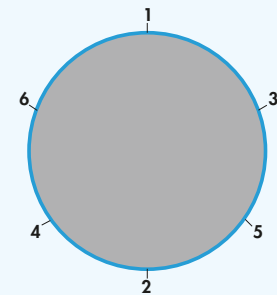

Figure 4
6. Placement of the fastening screws should be opposite from one another evenly spaced around the circumference, much like the procedure for tightening lug nuts on a tire. (*figure 4*)